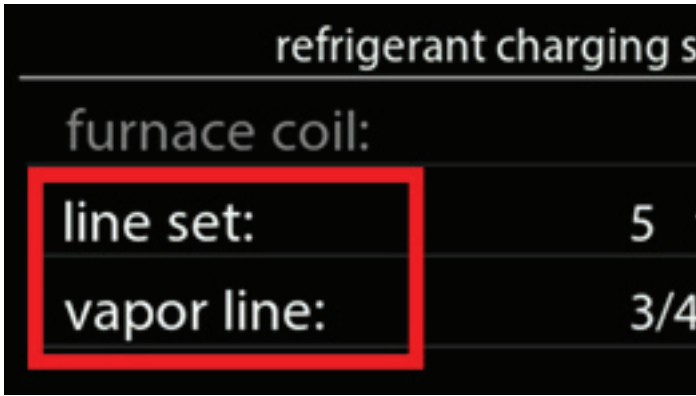

Fig. 17 – Select Line Set Length & Vapor Line Diameter A200035
11. Press the text "line set" and "vapor line" to choose line set length and vapor line diameter (see Fig. 17 and Fig. 18). After complete, press "next" to advance to next screen.